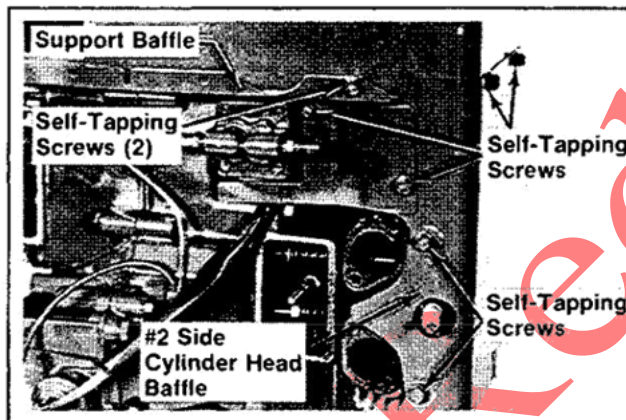

Figure 11-46. Installing Support Baffle And Top Baffle.
6. Install the support baffle, top baffle, and self-tapping screws. Refer to Figure 11-46.